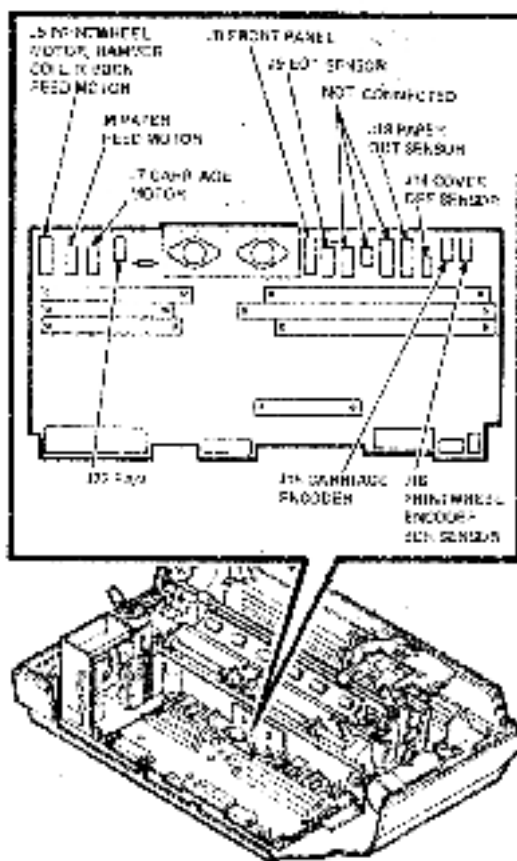

Figure 2-14 Motherboard Connector Locations
2. Disconnect the remaining cables from motherboard (Figure 2-14).
2. Disconnect the following cables from motherboard (Figure 2-14).
2. Disconnect the fan cable (J22) from motherboard (Figure 2-14).